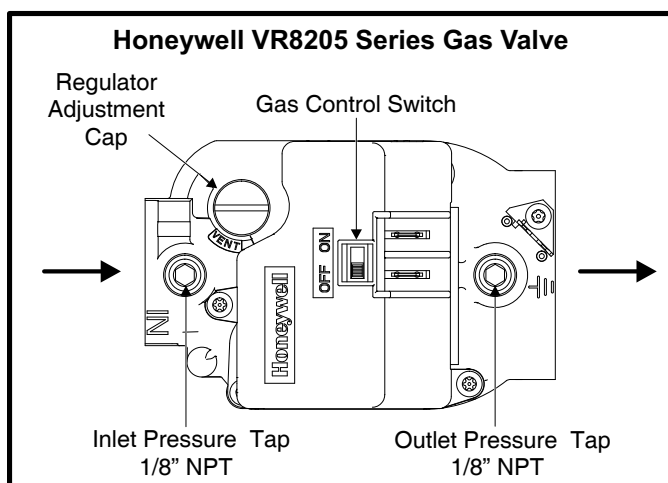

Figure 12
- 3 - *Honeywell VR8205 Gas Valve with ON/OFF Switch* - Set gas valve switch to **ON**. See figure 12.
Measure manifold pressure: Shut off gas supply to the unit. Remove plug from pressure tap. See figure 12 or 13. Connect manometer or gauge to the proper pressure tap, then turn on the gas supply.
The Honeywell VR8205 gas valve has an adjusting screw. See figure 12 or 13 for adjusting screw location. Remove the cap and turn the adjusting screw clockwise to increase pressure and input; turn counterclockwise to decrease pressure and input. The pressure regulator adjustment is sensitive. One turn of the adjusting screw results in a large change in manifold pressure. Replace the adjusting screw cap.